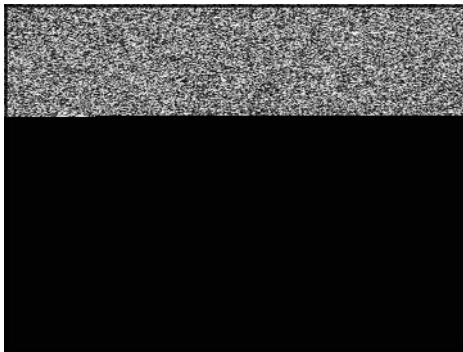

Figure 46
11. With a modified pin punch (A, Figure 46) remove welch plug (B) from carburetor body.